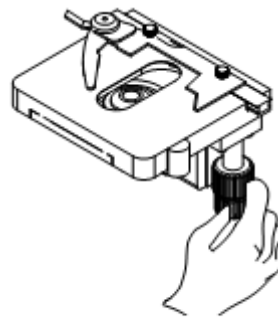

Fig.7
7.4.2 Adjust the stage hand wheel make sure that viewed field locates objec -tive under. (Fig.7)